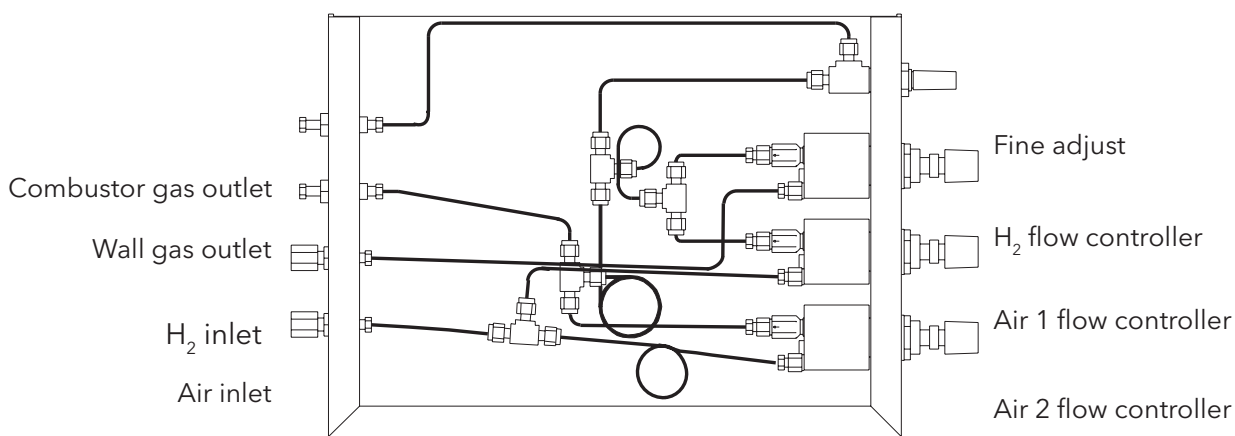

Figure 3.18. Internal View: Manual Gas Flow Controls in the Detector Controller
3. Connect the regulated air supply to the air inlet connector and the regulated H₂ supply to the H₂ inlet connector using the supplied 1/8" nut and ferrule. (Figure 3.18). Push the gas lines into the connector as far as they can go before tightening the nuts onto the connector. Securely tighten the 1/8" nut using a 7/16" wrench.
7. Gently turn the fine adjust needle valve to the off position (clockwise) (Figure 3.18). Do not tighten down as this can damage the needle. Then open the valve four full turns counterclockwise.
8. Set the Air 1 and Air 2 flow controllers as well as the H₂ flow controller to the off position (fully clockwise) (Figure 3.18).